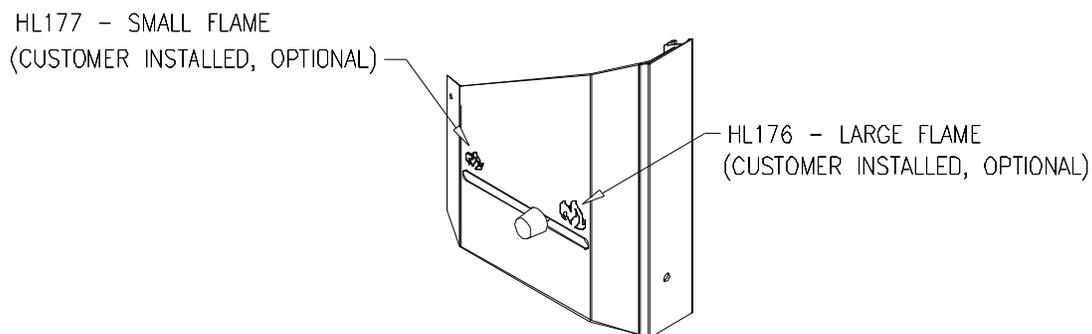

Figure 3.4
- Install the middle and rear secondary air tubes ensuring air holes face forward. Install the cotter pins as in fig 3.4.